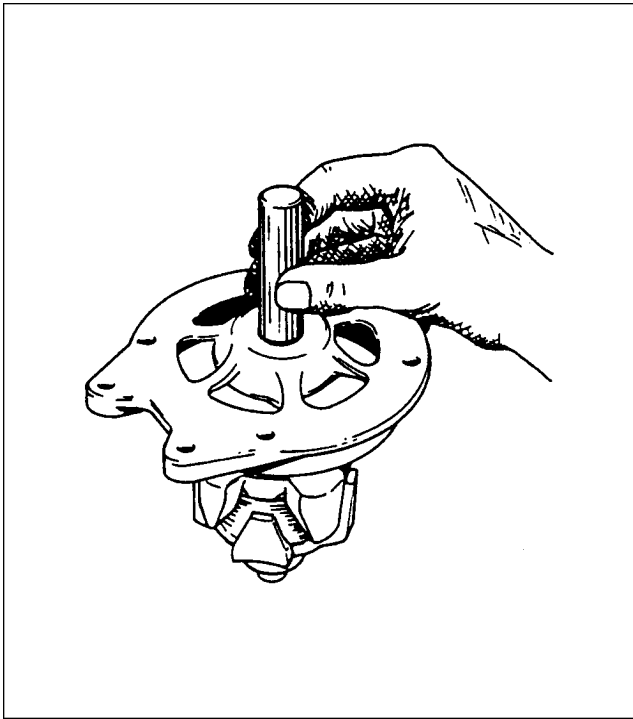

Figure 24-35. Installation of Bearing
1. Press ball bearing into drive end head using a flat block approximately two inch square so that pressure is exerted on outer race of the bearing. Install retainer plate. With snap ring and retainer cup in place on rotor shaft, use a tool that fits over shaft and against inner bearing race, and press until inner bearing race is against snap ring retainer cup. (Refer to figure 24-35-)